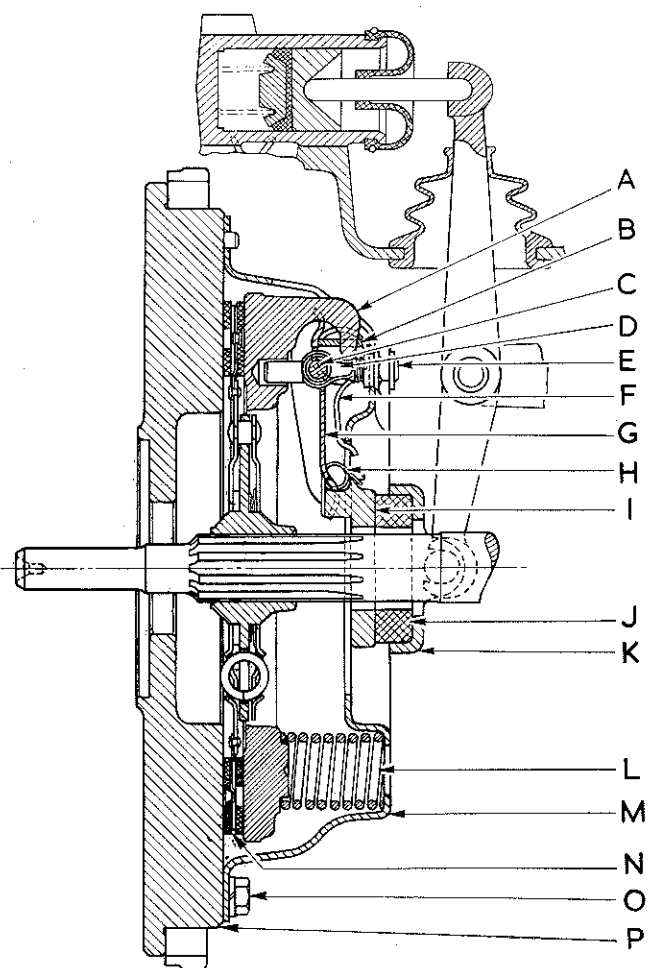

Fig. 1
Each release lever is pivoted on a floating pin (C), which remains stationary in the lever and rolls across a short flat portion of the enlarged hole in the eyebolts (D), (see Fig. 1). The outer ends of the eyebolts extend through holes in the clutch cover and are fitted with adjusting nuts (E) by means of which each lever is located in its correct position. The outer or shorter ends of the release levers engage the pressure plate lugs by means of struts (B) which provide knife-edge contact between the outer ends of the levers and the pressure plate lugs, eliminating friction at this point. Thus the pressure plate (A) is pulled away from the driven plate (N), compressing the six thrust coil springs (L) which are assembled between the pressure plate and the clutch cover (M).